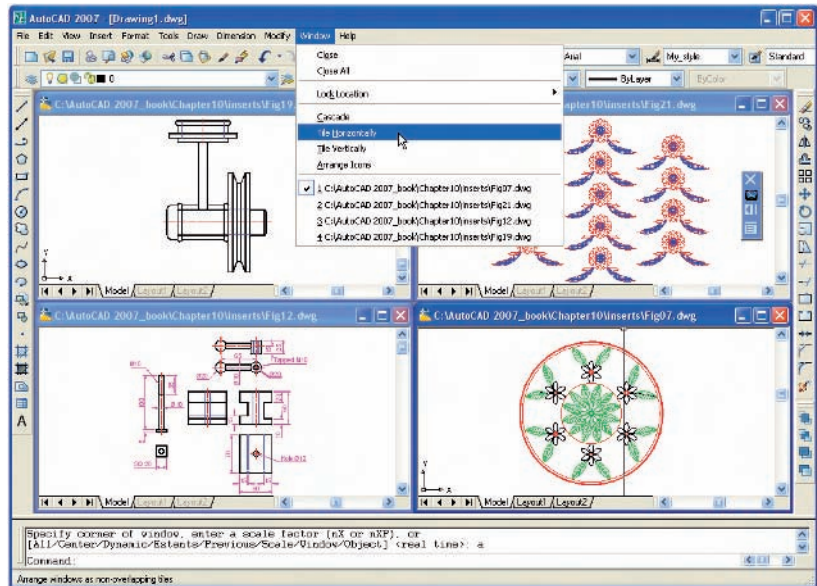

Fig. 10.20 Four drawings in the Multiple Document Environment
2. In the **Window** drop-down menu, *click Tile Horizontally*. The four drawings rearrange as shown in Fig. 10.20.